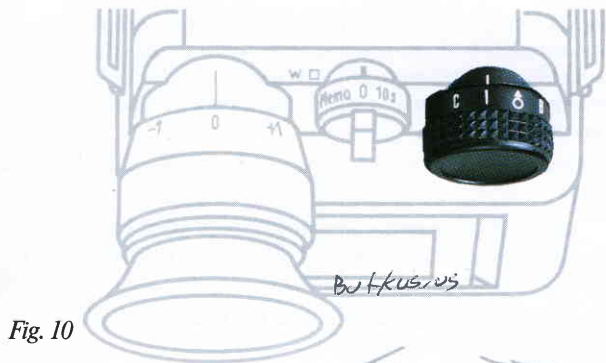

Fig. 10
*In order to familiarise yourself with the operation of the camera, you should first fit to the body the lens, an empty magazine and a charged power pack. Transfer the magazine darkslide 19 into the storage position 22. Turn the main switch 10 from "0" to "I" (fig. 10) and the magazine switch to SE. The camera may now be operated as though it were loaded with film.*